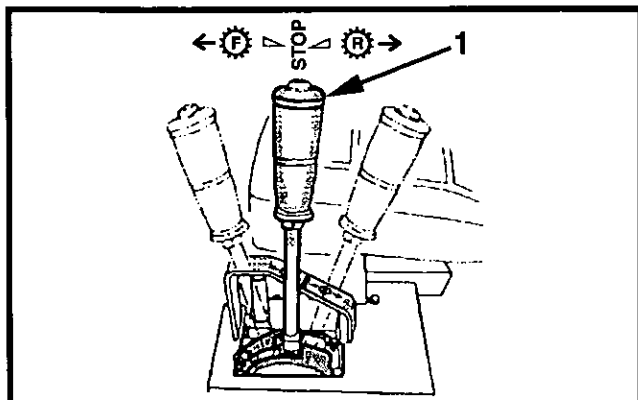

Figure 4-5 Propulsion Lever STOP Position
4. Position propulsion control lever to the **STOP** position (1, Figure 4-5).
9. To confirm engine will only start with propulsion control lever (1, Figure 4-5) in the **STOP** position, move lever from the **STOP** position in any direction.